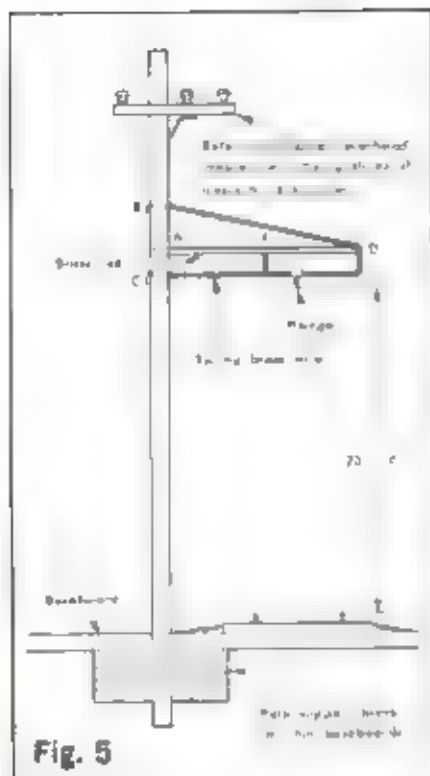

Fig. 5
Construction of bracket and cross-span poles can follow many different methods but we will discuss only a few here. For wood bracket poles, this first method is quite simple and effective and can be used for all gauges. Start by cutting the poles to length following the template provided in this chapter (fig. 3). Next drill a hole a little more than halfway through the pole at point A in fig. 5. This hole should be ¼" in diameter in O gauge, and ⅜" for S and HO. With a No. 80 bit drill a Ø13" hole (suitable for all three gauges) at points B
Using fig. 5 as a guide, shape the spring wire with a needlenose pliers into a one-piece bracket-arm rod/cross-span wire that will extend on the model from point B around the end of the bracket arm (D) to point C. Solder it to the end of the brass rod at D and cut the rod to